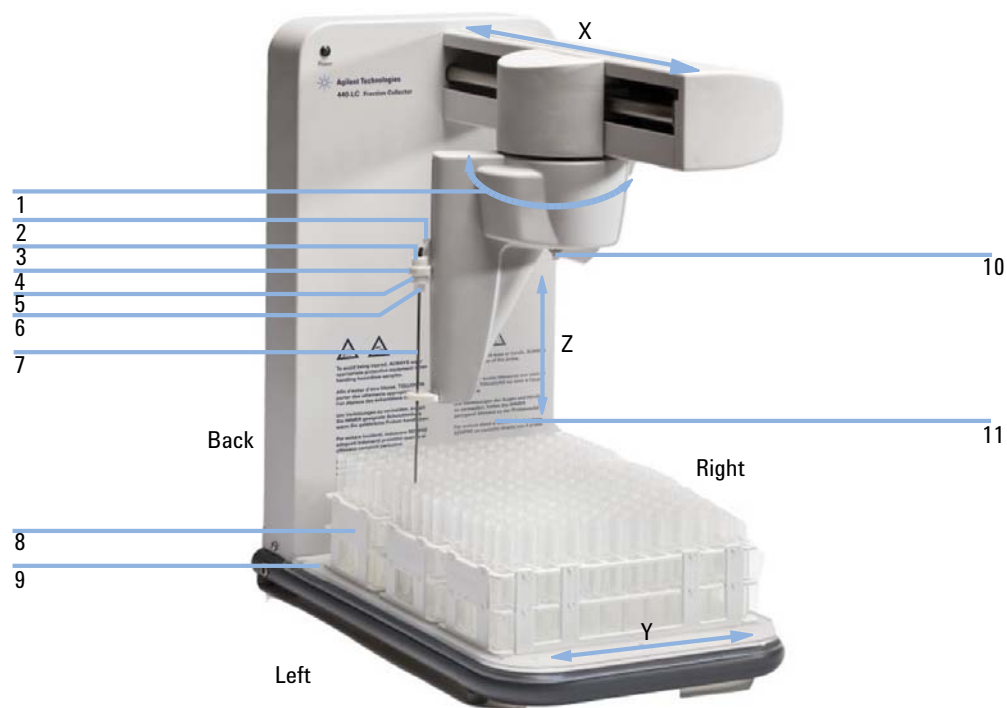

Figure 20 Fraction collector components
- 5 Insert the probe into the probe mounting block (see Figure 20 on page 92).